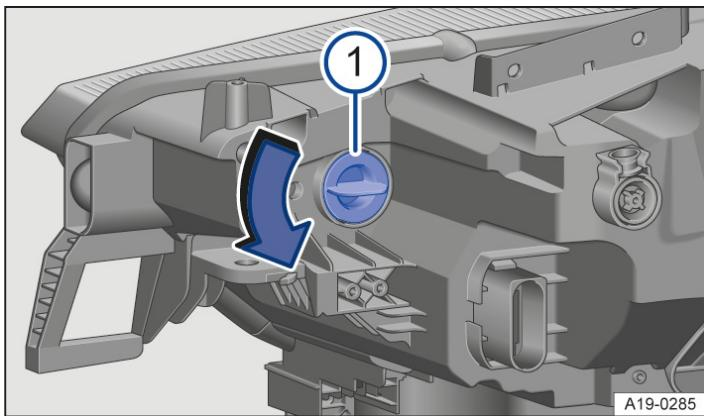

Fig. 1 Rear of the right headlight: changing the turn signal bulb.
3. Turn the bulb holder → Fig. 1 in the direction of the arrow and pull it out.